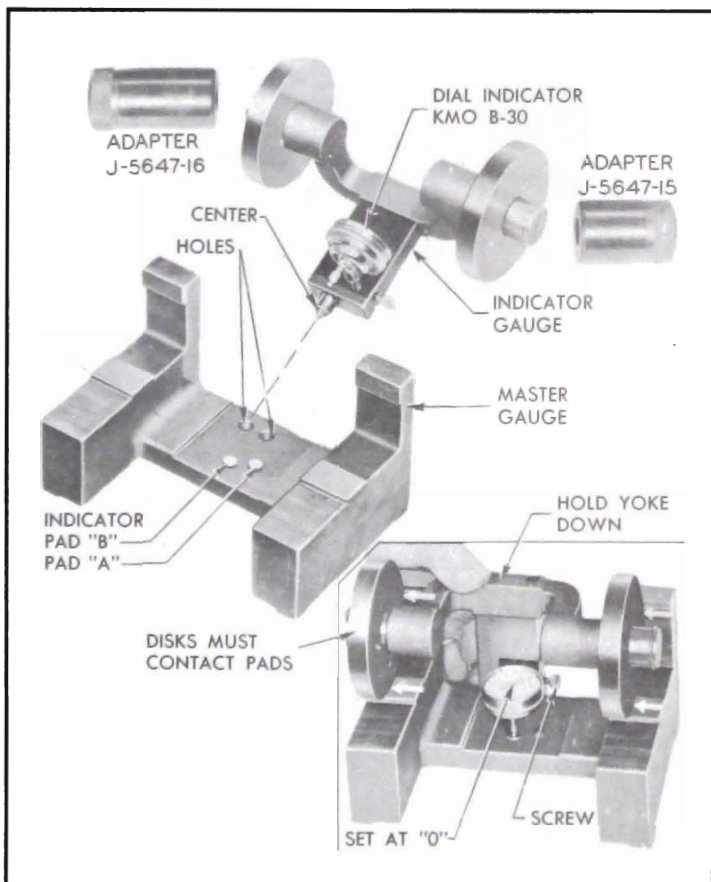

Figure 6-28—Pinion Setting Gauge J-5647 and Adapters
The dial indicator type Pinion Setting Gauge J-5647 is used with adapters to provide a fast and accurate method of checking pinion location; it gives a direct reading on a dial indicator that does not require computation or reference tables. See figure 6-28.
Pinion Setting Gauge J-5647 consists of a "master gauge" and an "indicator gauge" upon which a dial indicator is mounted. Adapter Set J-5647-17 is not used when "zeroing the gauge," but is used in place of the discs when checking the pinion setting. See figure 6-28.
2. Install the discs on the "indicator gauge" and install the small contact button on the stem of the dial indicator. Mount the dial indicator on the indicator gauge. See figure 6-28.